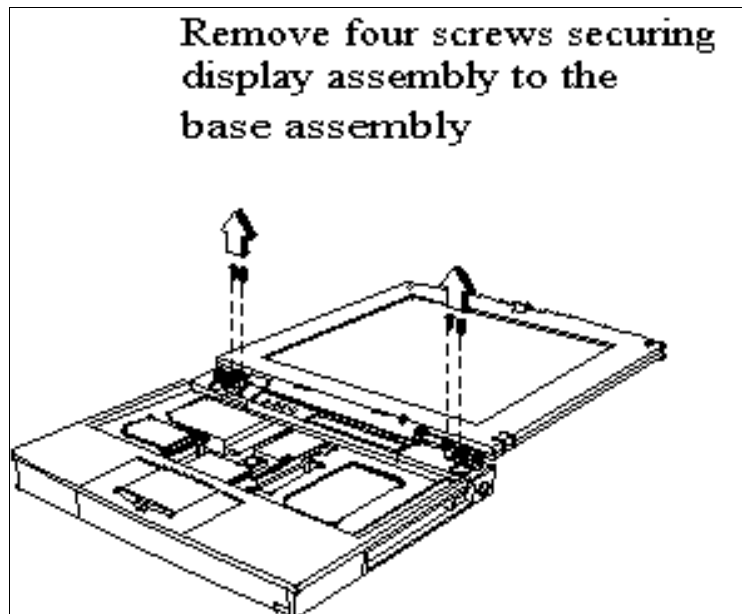

Figure 6-13 Removing the Display Hinge Screws
3. Remove the four display hinge screws (Figure 6-13) and separate the Display Assembly from the Base Assembly.